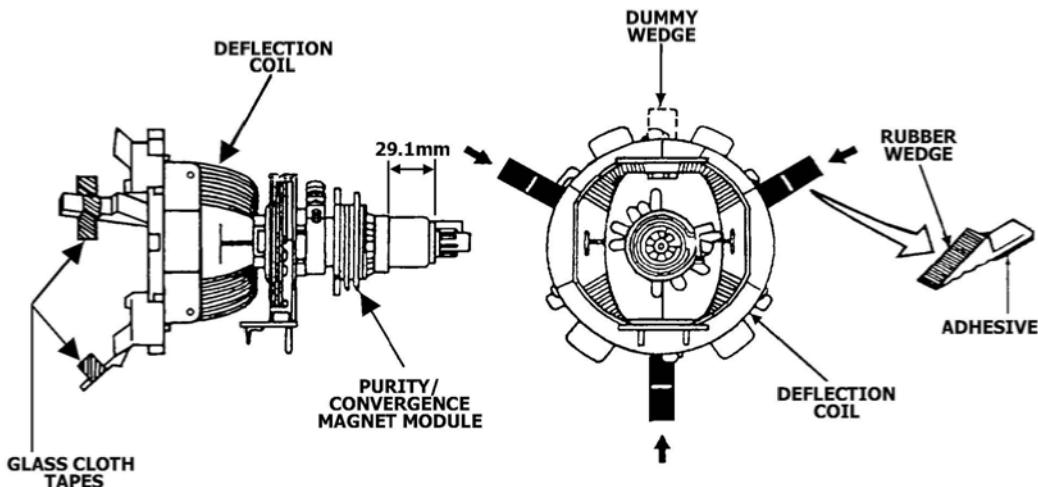

Fig. 1
1. Refer to Figure 1, remove 7screws.
Note: If the Picture Tube is being replaced, mount the Degaussing Coil on the picture tube. See following Figure1.Cabinet Back Removal